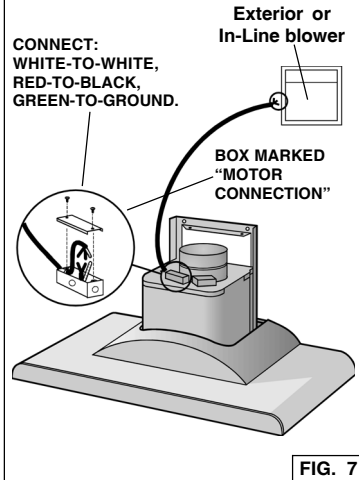

FIG. 7
1. Run 2-wire plus ground power cable from the Exterior or In-Line Blower to the hood's wiring box marked "motor connection". Fig.7
2. Remove the cover from the wiring box and remove one knockout. Fig. 7
3. Secure the conduit to the wiring box through a conduit connector. Fig.7
4. Make electrical connections at the hood. Connect white-to-white, **red-to-black** and green-to-ground. Fig.7